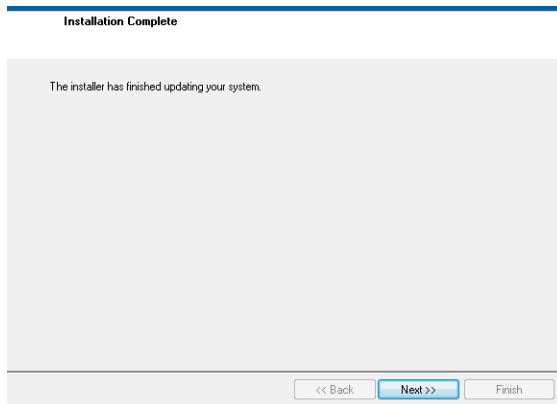

Figure 12. AD7124-4/AD7124-8 Eval+ Software Installation: Indicating When the Installation is Complete
- The message in Figure 12 appears when the installation is complete. Click **Next**.